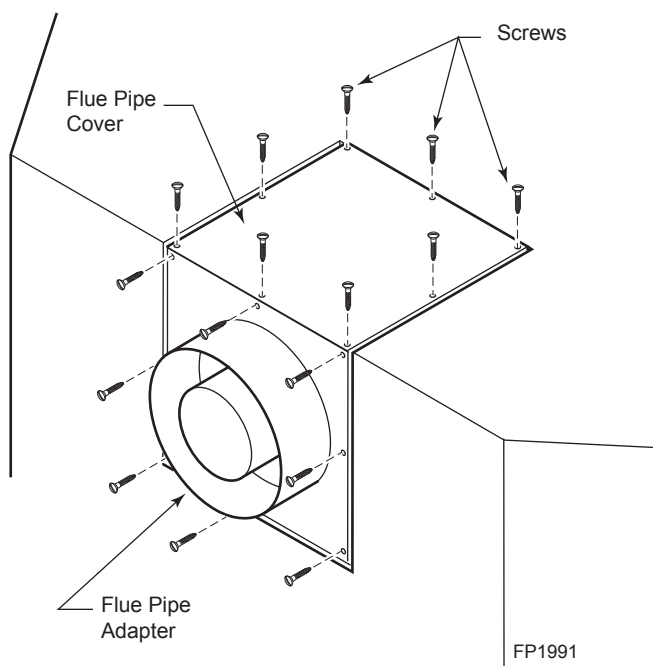

Figure 7 - Remove 16 Screws from Flue Pipe Adapter and Flue Pipe Cover
1. Remove the eight (8) screws securing the flue pipe adapter to the fireplace body. *Figure 7*
3. Remove the eight (8) screws securing the flue pipe cover to the top of the intake box and remove the cover and gasket. *Figure 7*